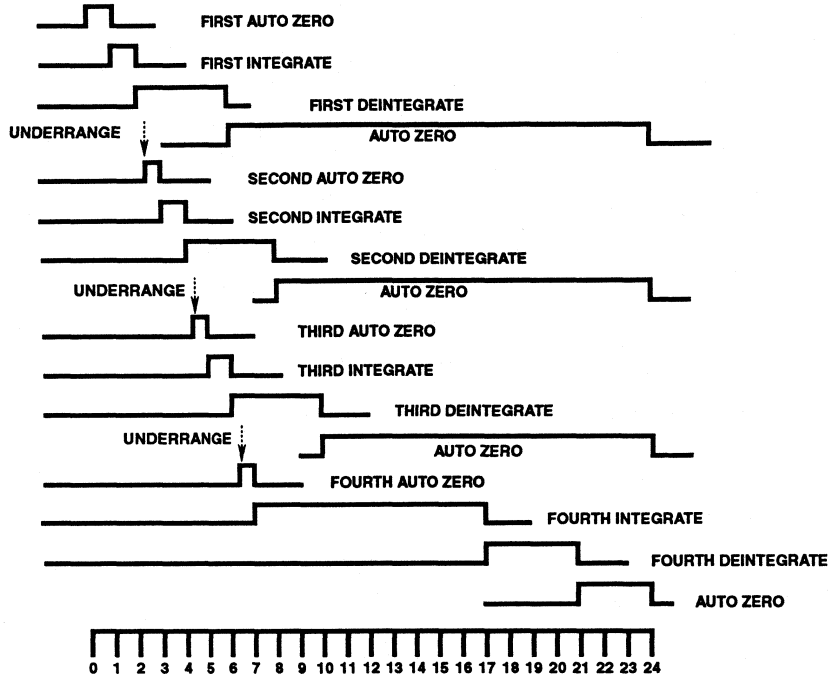
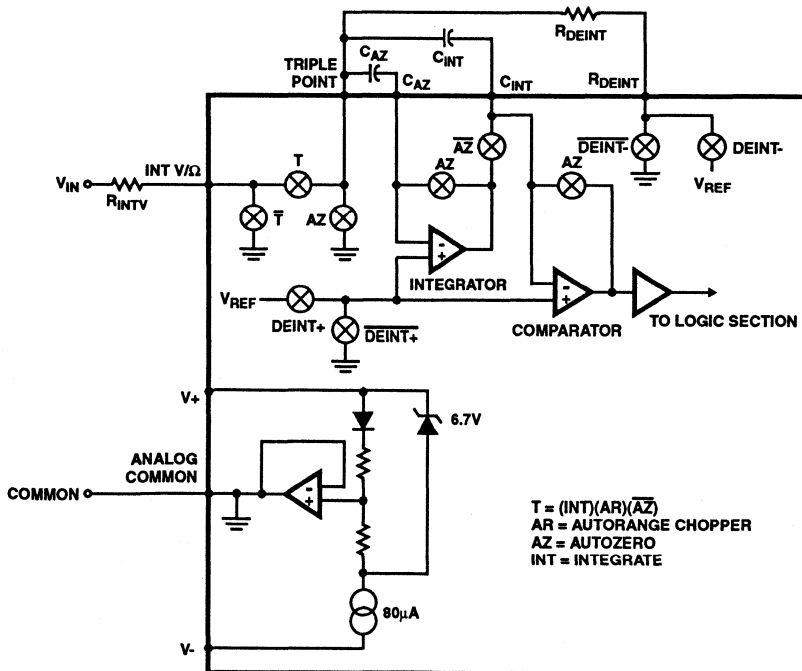

FIGURE 1. LINE FREQUENCY CYCLES (1 CYCLE = 1000 INTERNAL CLOCK PULSES = 2000 OSCILLATION CYCLES)
FIGURE 3. DETAILED CIRCUIT DIAGRAM FOR DC VOLTAGE MEASUREMENT
Only those portions of the analog section which are used during DC voltage measurements are shown in Figure 3. As shown in the timing diagram (Figure 1), each measurement starts with an autozero (AZ) phase. During this phase, the integrator and comparator are configured as unity gain buffers and their non-inverting inputs are connected to Common. The output of the integrator, which is equal to its offset, is stored on C_{AZ} - the autozero capacitor. Similarly, the offset of the comparator is stored in C_{INT}. The autozero cycle equals 1000 clock cycles which is one 60Hz line cycle with a 120kHz oscillator, or one 50Hz line cycle with a 100kHz oscillator.